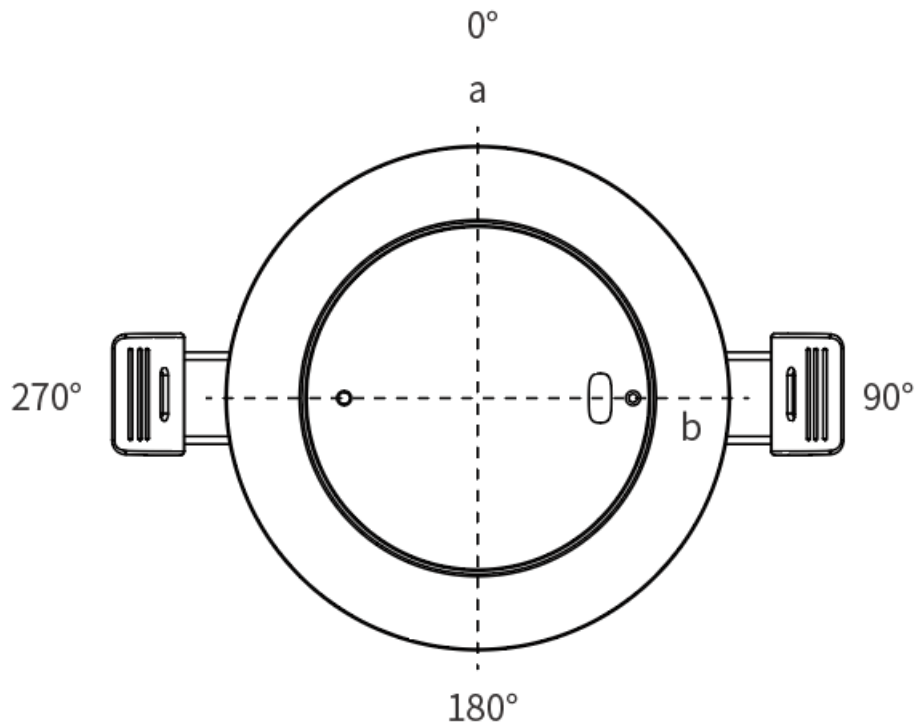

Figure 12
- The detection range of the device is oval-like, as shown in Figure 12, Edge(a) detects the long-axis range of the oval, Edge(b) detects the short-axis range of the oval, and the length of each edge varies according to different spaces and environments. The detection range can be adjusted by adjusting the installation direction of the device.